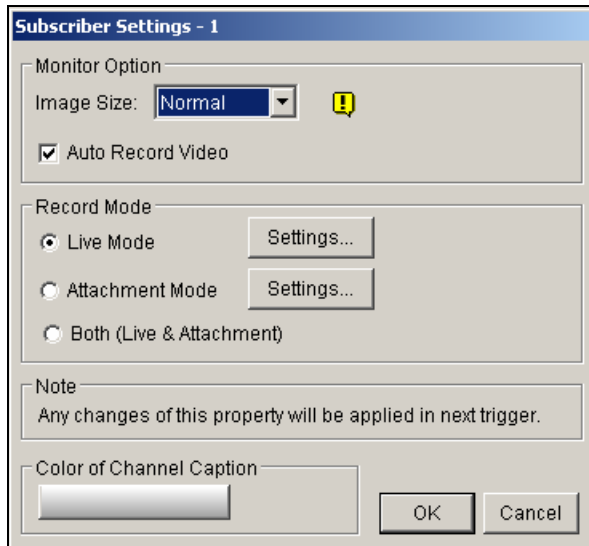

Figure 9-4 Subscriber Settings
In the Subscriber Settings dialog box (Figure 9-4), select **Attachment Mode**, and click the **Settings...** button beside. This dialog box appears.
1. On Center V2 window, click the **Accounts** button (No.12, Figure 9-1), select a subscriber, and click the **Subscriber Setting** button on the toolbar. The Subscriber Settings dialog box (Figure 9-4) appears.